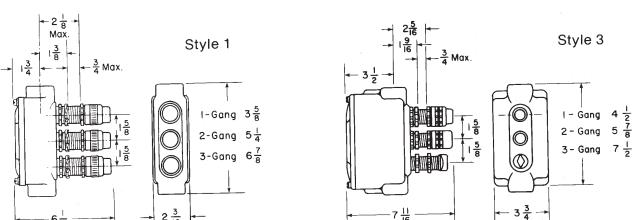

Figure 1
2. Note: Maximum panel thickness — 3/4". See Figure 1 for gang dimensions.